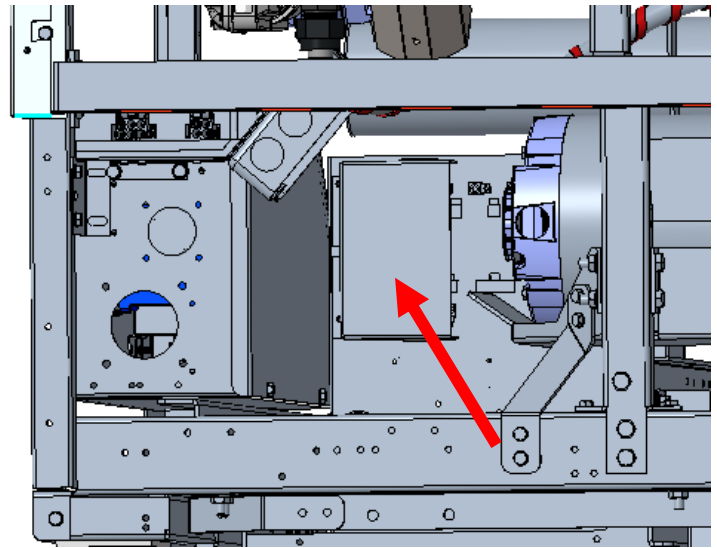

Fig 6
7. Reinstall ATO box cover from step 3, then remove the wire shield cover from the rear of the box. (Fig 6)